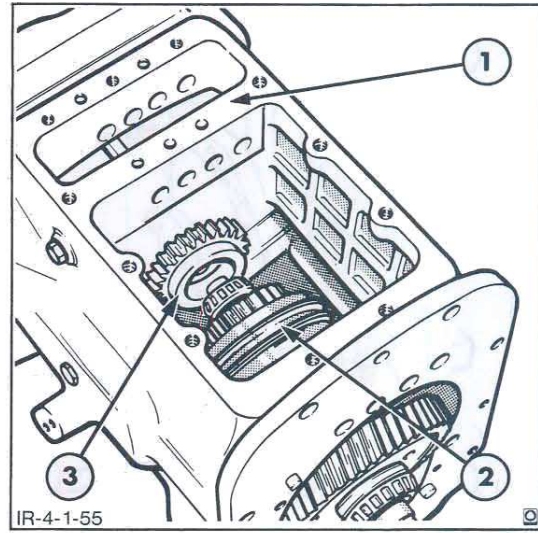

Figure 56
3. Install the rear input shaft into the transmission case and rest across the transmission case inner wall, Figure 56.